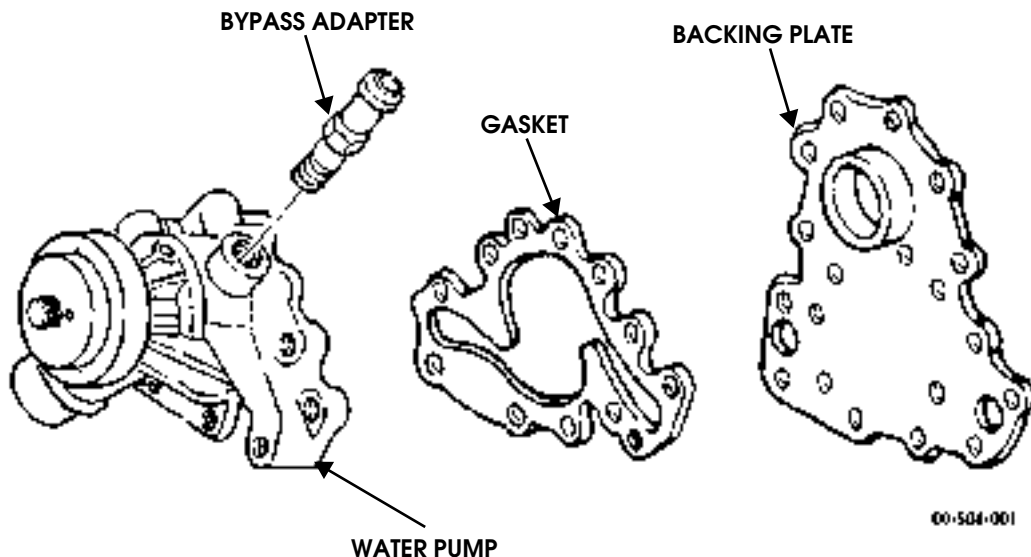

Figure 4-27: Water Pump
9. Remove water pump and gasket from plate (Figure 4-27).